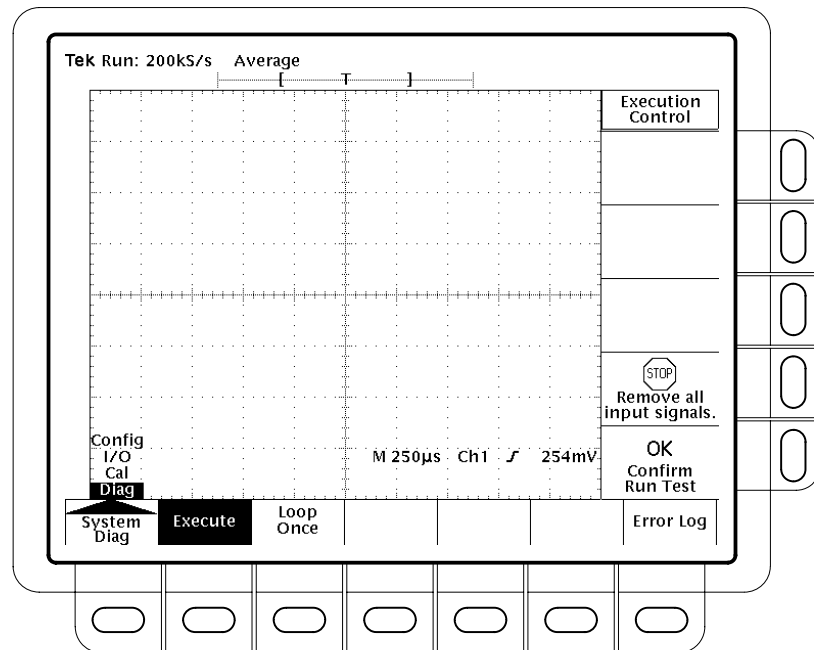

Figure 6–16: The diagnostics menu
3. Repeatedly press the main menu button **System** until **Diag** is highlighted in the pop-up menu. This calls up the diagnostics menu, shown in Figure 6–16.